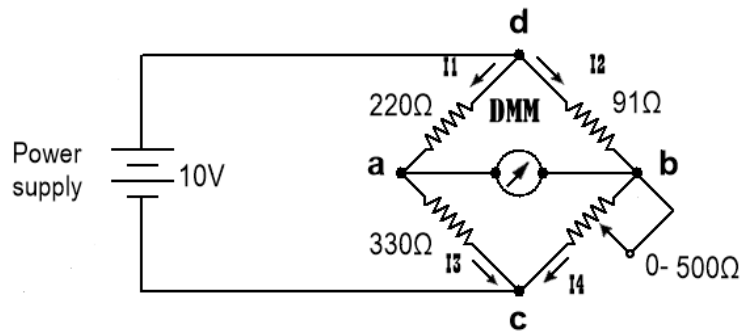

FIG 5.3
- (a) Construct the network of Fig 5.3, insert the measured values of each resistor and set the potentiometer to the maximum resistance setting.